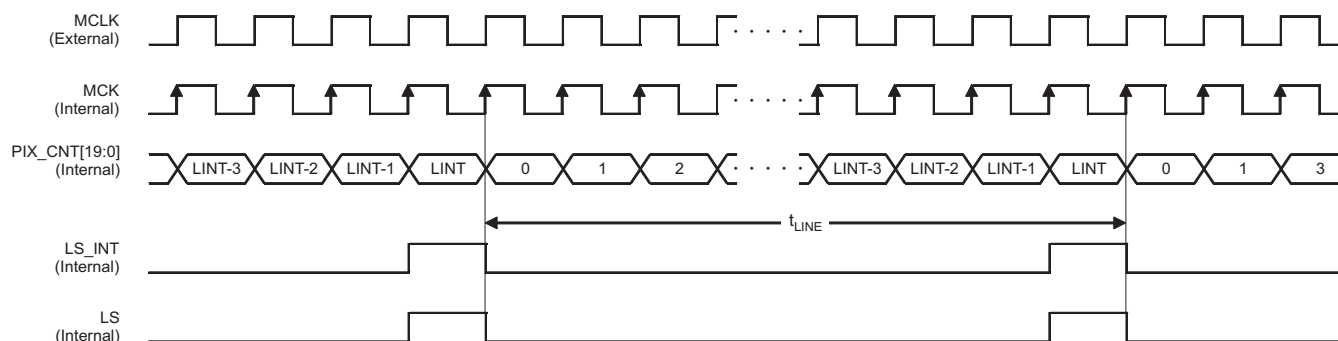
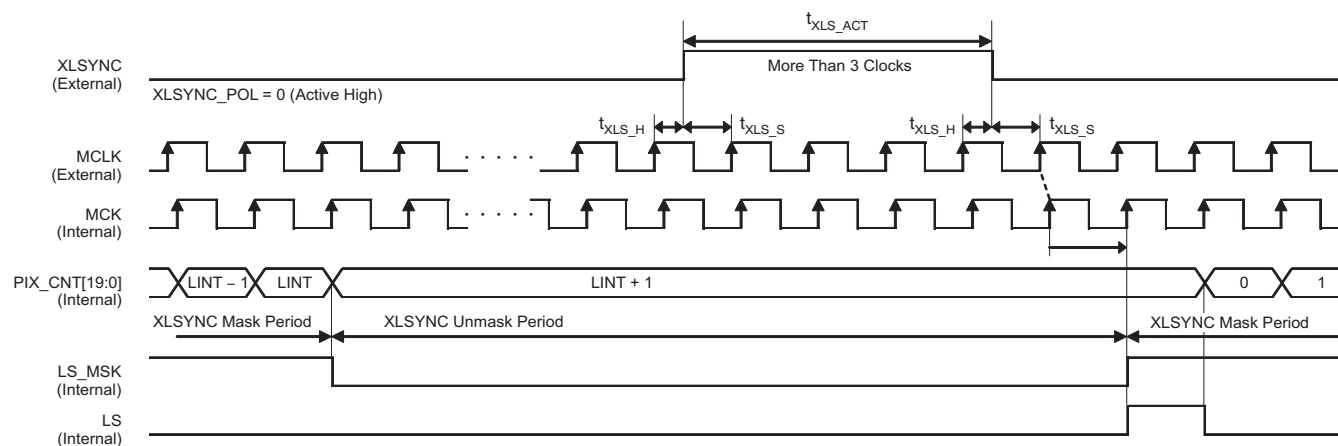

Figure 16. Internal Line Synchronous Mode (XLSYNC\_SEL = 1)
Figure 17. External Line Synchronous Mode (XLSYNC\_SEL = 0, default)
The VSP5610/11/12 have two modes for synchronizing the sensor line cycle: internal line (Figure 16) and external line synchronous mode (Figure 17). In internal line synchronous mode, the line cycle signal (LS) is generated after a certain number of MCLK cycles that are counted by an internal counter (PIX\_CNT). The number of MCLK cycles is determined by the LINT[19:0] register; the counter clears after LS is generated. The active LS period is equal to one MCLK cycle period.
Table 9. Timing Requirements for Figure 16 and Figure 17